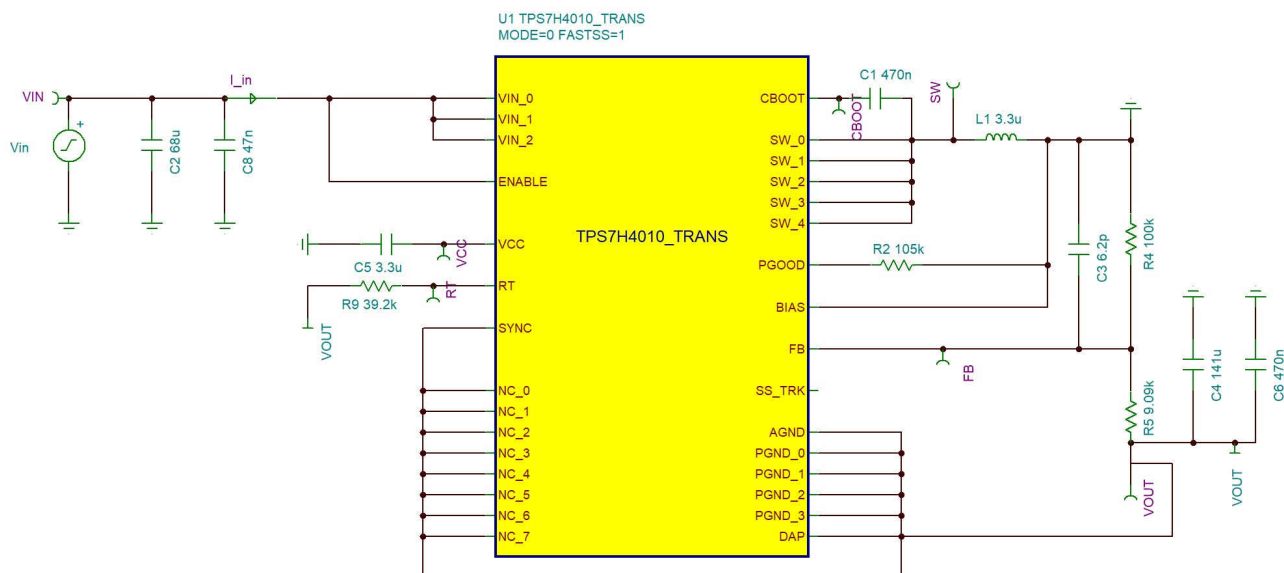

Figure 1-1. TPS7H4010-SEP Inverting Buck Boost Topology
Implementing the TPS7H4010-SEP as an inverting buck-boost is similar to buck topology. In the buck topology, the positive connection of the output is connected to the inductor and the return is connected to the integrated circuit (IC) ground. In the inverting buck-boost configuration however, the IC ground is used as the negative output voltage and what used to be the positive output is connected to ground. The inverting buck-boost topology allows the output voltage to be inverted and lower than ground because V_{in} is typically referred to ground, but in the inverting buck-boost topology, V_{in} is referred to V_{out} . The input voltage range of the TPS7H4010-SEP in the inverting buck-boost is 3.5-V to 32-V (+ V_{out}), where V_{out} is a negative value. Since the input is switching from V_{in} all the way to V_{out} instead of ground, remember to pick adequately rated capacitors for the input. The maximum output current is reduced when going from buck to inverting buck-boost configuration. For this application, 3 A was the maximum current tested as exceeding 3 A is not recommended. Figure 1-1 shows the schematic for the inverting buck-boost topology.